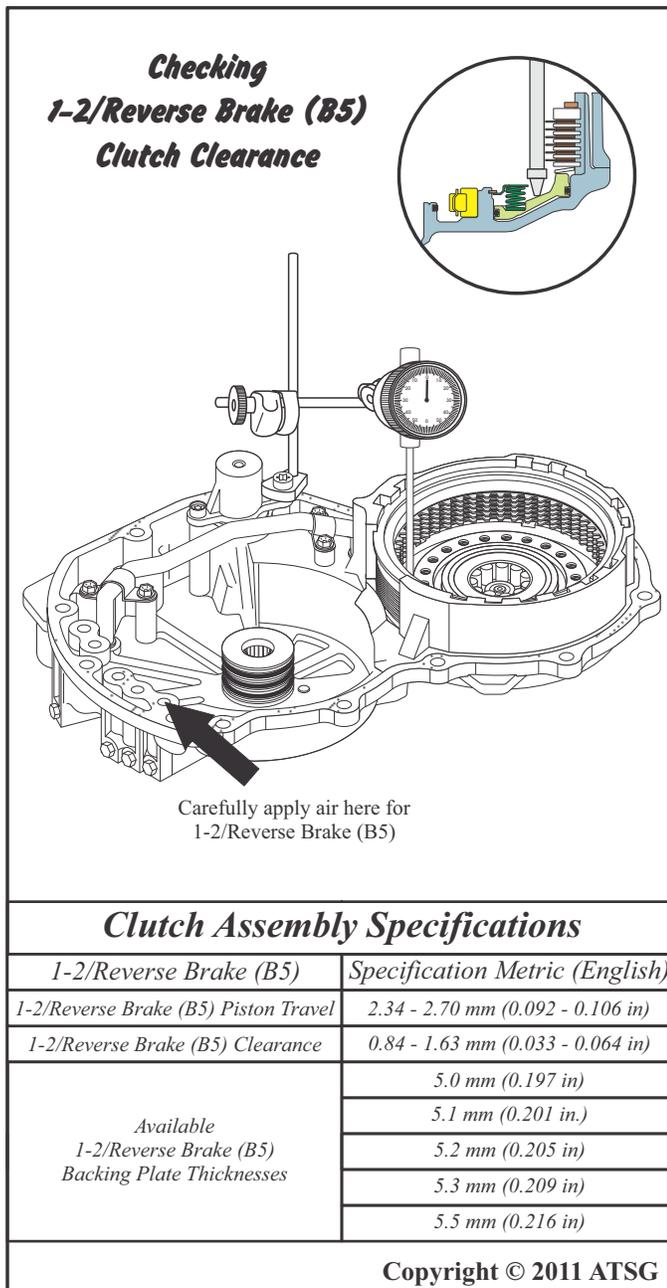

Figure 135
29. Put the dial indicator on the 1-2/Reverse Brake (B5) Piston and set the dial indicator to a zero reading as shown in Figure 135.
30. Carefully apply a small amount of compressed air into the 1-2/Reverse Brake (B5) apply port and check for proper piston stroke as shown in Figure 135.
32. If piston stroke is not within the specifications listed in the chart in Figure 135, select a different size 1-2/Reverse Brake (B5) Backing Plate from the available thicknesses listed.